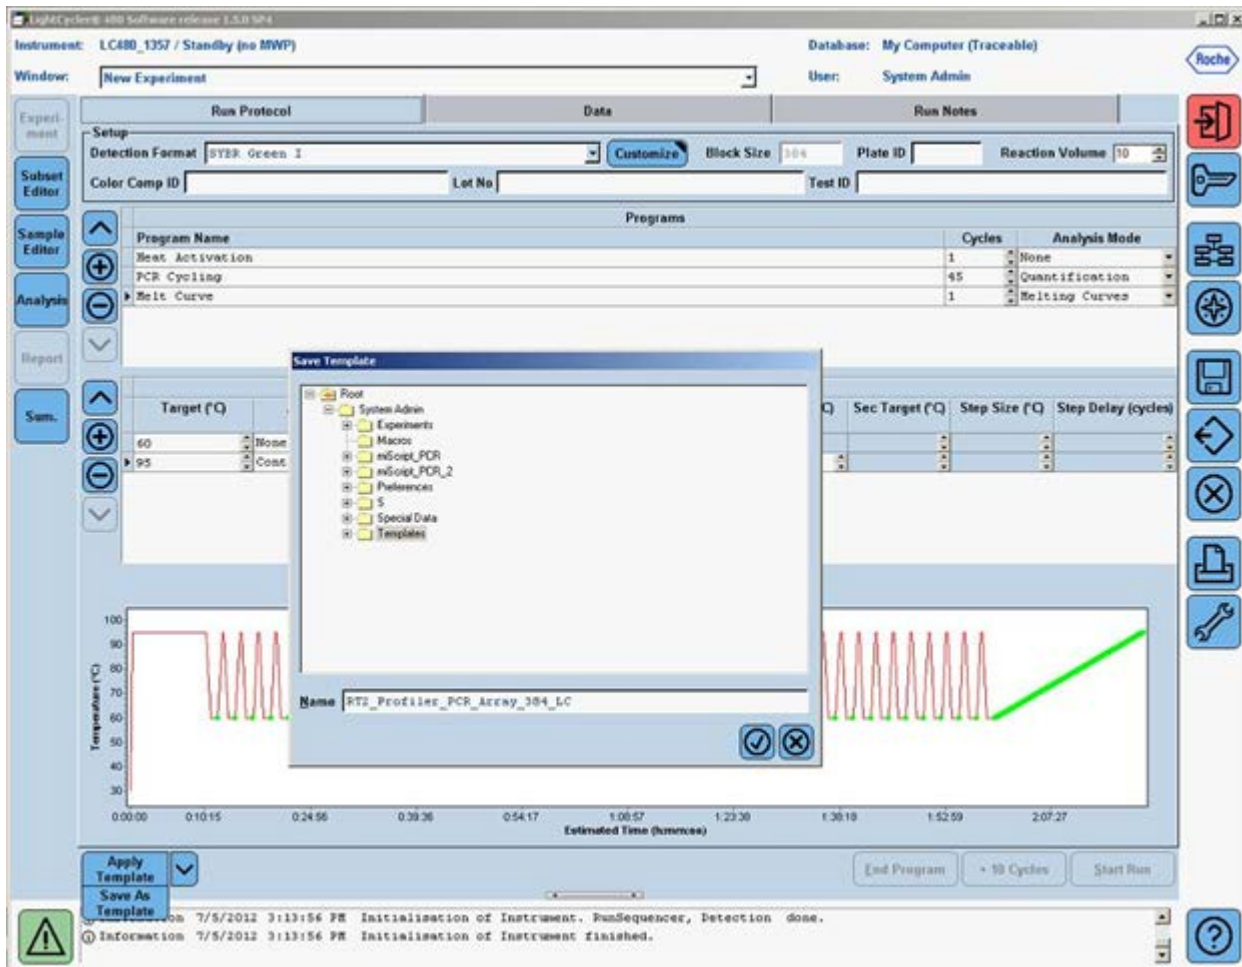

Figure 6. Saving the “Run Template” file.
10. Click the down arrow button (▼) right next to the “Apply Template” button on the lower left corner of the screen; select the “Save As Template” button (Figure 6) to save the run template under the filename “CopyNum_PCR_Array_384_LC” if using the 384-well format or “CopyNum_PCR_Array_96_LC” for if using the 96-well format.